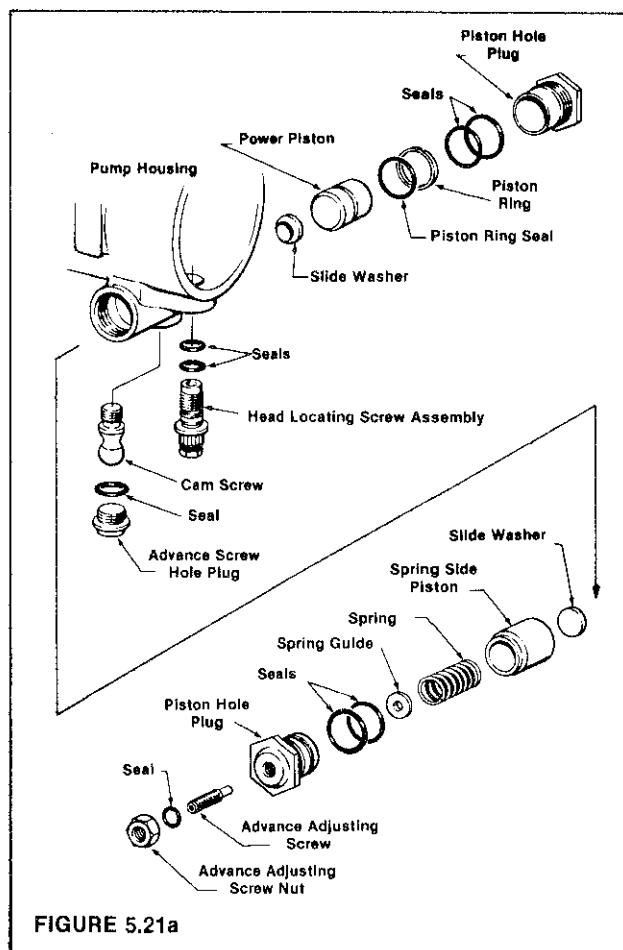

FIGURE 5.21a
STEP 21 Assemble the automatic advance components (Figure 5.21a). Install the piston